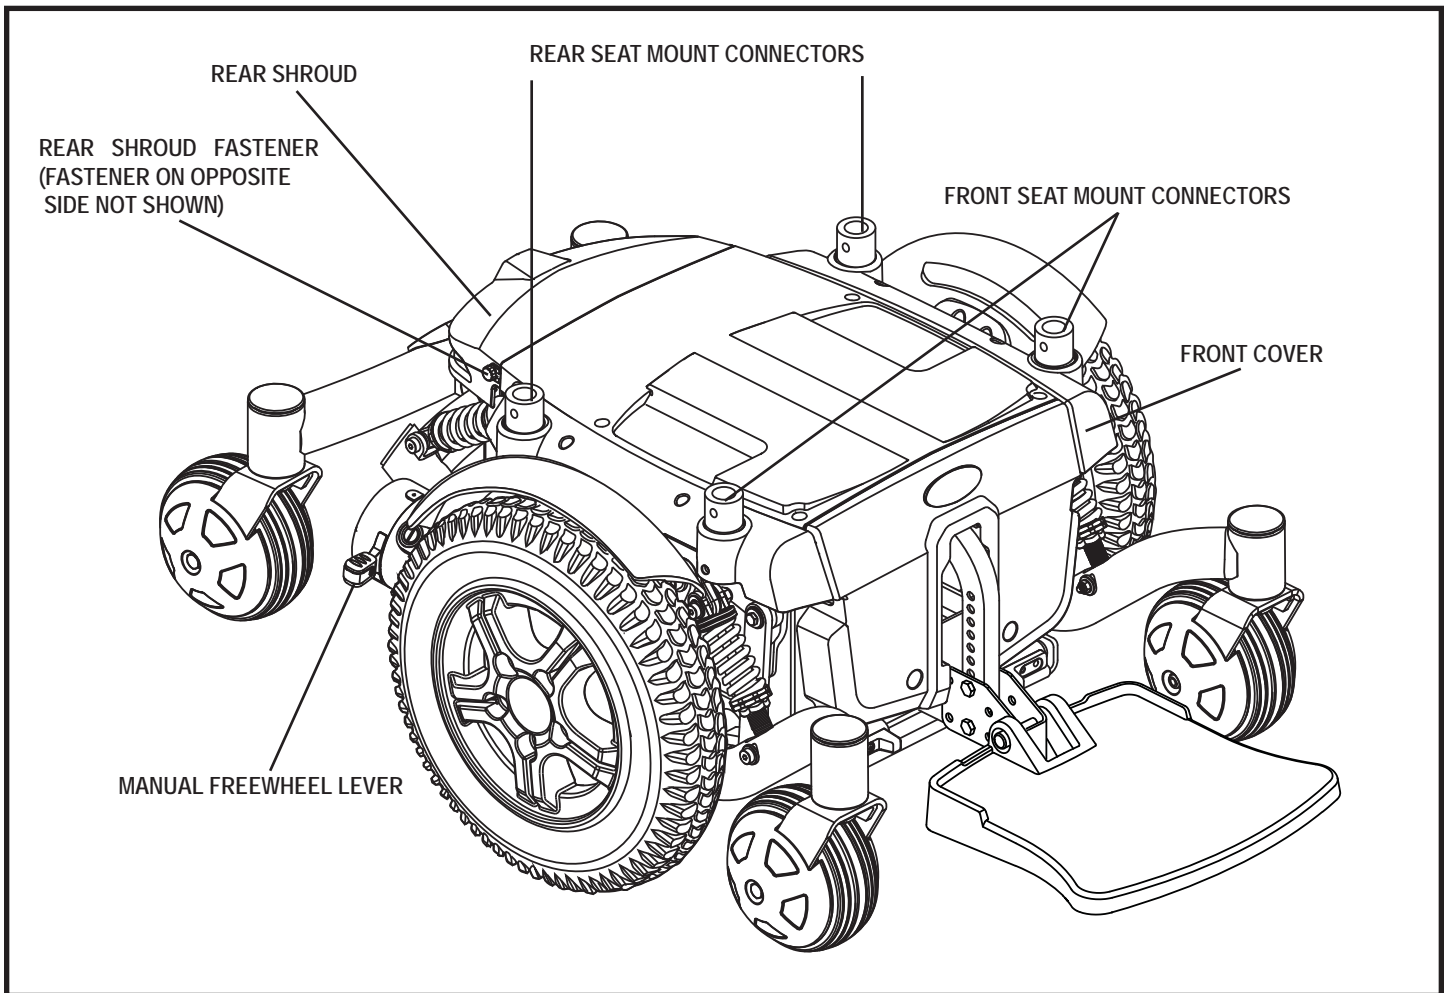

Figure 2. The Quantum 600Z Series Power Base
5. Loosen the rear shroud fasteners and remove the rear shroud. **See figure 2.**
7. Replace the rear shroud and tighten the rear shroud fasteners. **See figure 2.**
3. Loosen the rear shroud fasteners and remove the rear shroud. **See figure 2.**